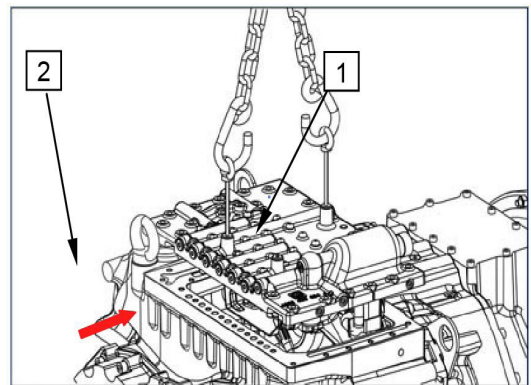

Figure 61
Mount two eyebolts, use a lifting tackle to lift the duct plate (1) until it is possible to open and separate the bayonet locking of wiring harness – shifting block I wiring harness - shifting block II, as well as the lockings of differential lock solenoid valve and speed sensor (see arrow and (Figure 61)